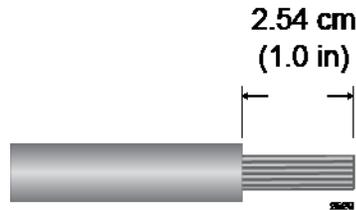

Figure 75. Stripping the solid or Stranded Grounding Wire
1. Prepare an adequate length of solid or stranded 10 AWG grounding wire by stripping it as shown in Figure 75.